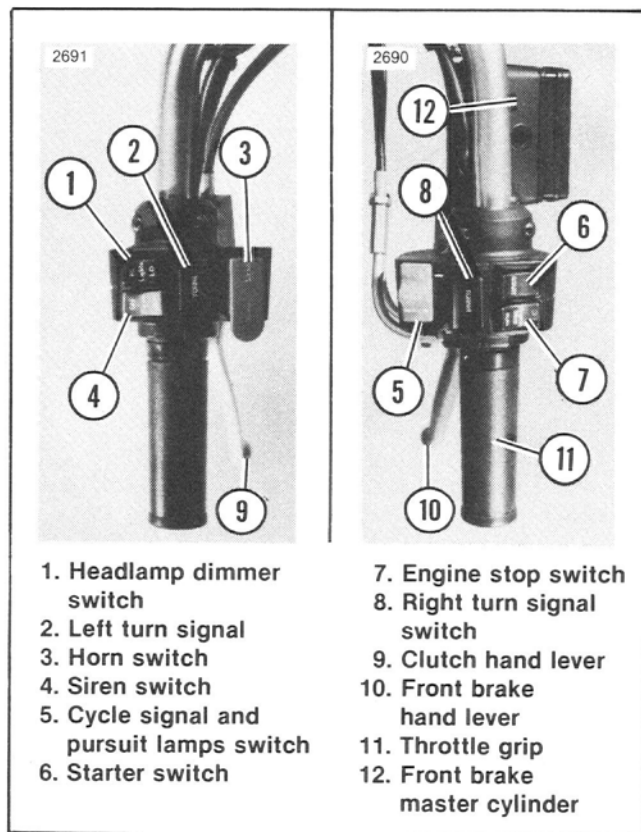
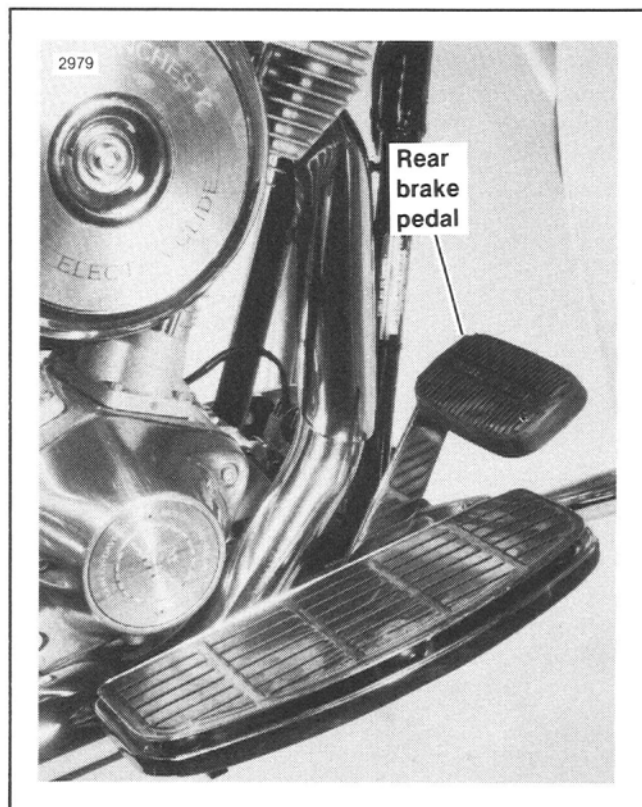

Figure 9. Handlebar Controls
Figure 12. Rear Brake Pedal — FLHT
See Figure 9. The starter switch (6) is located on the right handlebar. With ignition on, engine stop switch (7) in "RUN" position and transmission in neutral, push switch to operate starter motor.
See Figure 9. Switch (7) on right handlebar turns ignition on or off and should be used at all times to stop the engine, especially in an emergency. To stop engine, push switch to position marked OFF. Turn ignition/light switch to position marked OFF and remove key before parking or leaving vehicle.
See Figure 9. The throttle control grip (11) is located on the right handlebar. Turn control grip clockwise to close throttle; turn control grip counterclockwise to open throttle.
See Figure 9. The clutch hand lever (9) is located on the left handlebar where it may be easily operated with the fingers of the left hand. Pull lever in against handlebar grip to disengage clutch; release the lever slowly to its outward position to engage clutch.
See Figures 12, 13. The brake pedal controls the rear wheel brake and is located on the right side where it is operated by the right foot. See Figure 9. The brake hand lever (10) controls the front wheel brake and is located on the right handlebar, where it is operated by the fingers of the right hand.
See Figure 9. Right handlebar turn switch (8) operates the right front and right rear flashing lamps. Left handlebar turn switch (2) operates the left front and left rear flashing lamps. Front turn signal lamps also function as running lamps.
See Figure 9. The headlamp dimmer switch (1) on the left handlebar controls the headlamp high and low beams.
See Figure 9. The siren switch (4) is located on the left handlebar. The siren switch is used in combination with the horn switch (3) to activate the siren. The three procedures for operating the siren are as follows:
See Figure 9. The horn is operated by the horn switch (3) on the left handlebar. Refer to the SIREN SWITCH pre-
See Figure 9. The cycle signal and pursuit lamps switch (5) is located on the right handlebar. The two procedures for operating this switch are as follows: